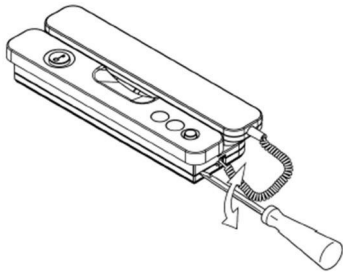

Fig. 1
1. Spread the doorphone cover releasing the plastic latches using a screwdriver (Fig. 1).